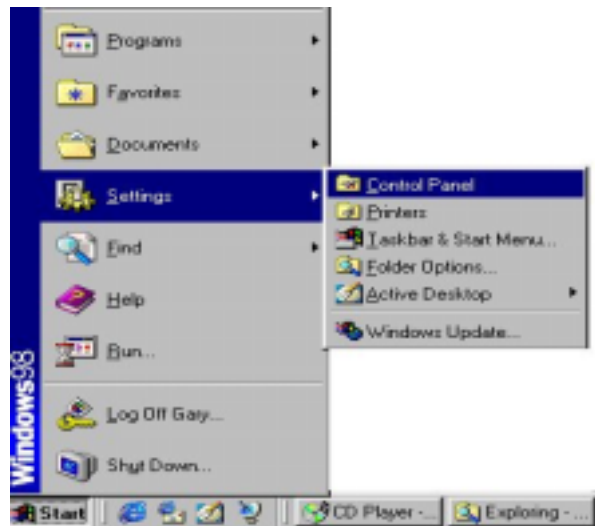

Figure 2-3-1
- Open the “Control Panel” shown in Figure 2-3-1.